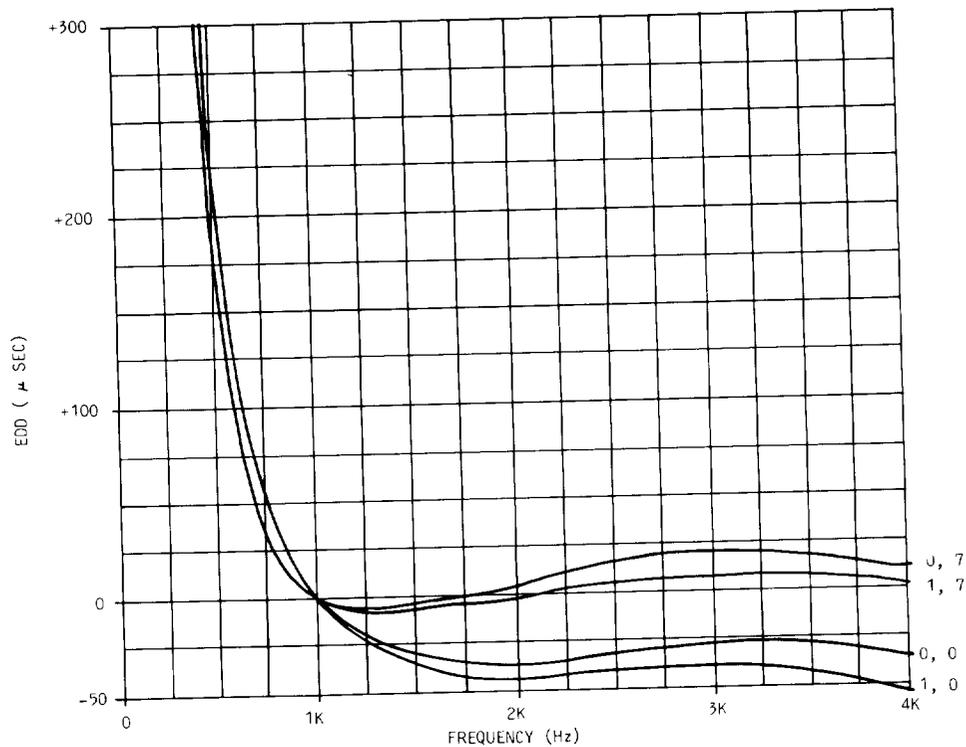

Fig. 5—Envelope Delay Distortion of the J99343GE CFU
3.03 Figure 5 gives the Envelope Delay Distortion for the repeater.